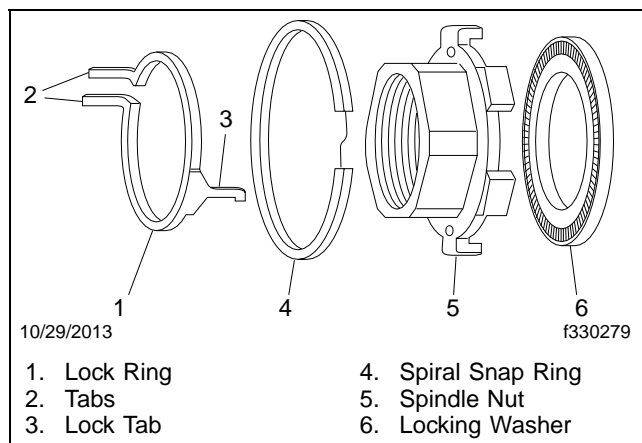

Fig. 6, PreSet Plus Spindle Nut System
14. If the lock ring is locked into the spindle nut, compress the tabs and pivot the ring to remove it from the nut. See **Fig. 6**.